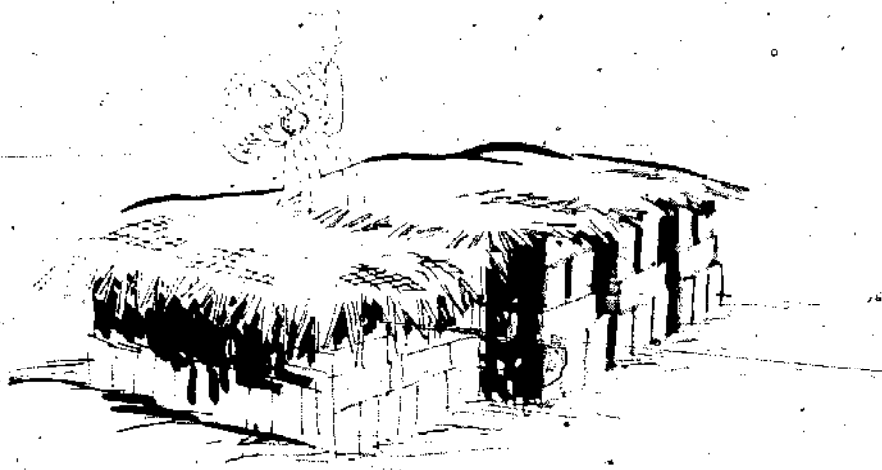

Figure 58.
3. If stabilizers such as lime or cement are used, cover the blocks with wet cloth or straw as soon as the molds are removed. Keep them moist for seven days and then turn them on edge to complete the curing. (See Figure 58, Chapter 9.)
A wet cure period is necessary for *stabilized* blocks to gain strength, particularly if they contain cementing type stabilizers. (See Chapter 2.) During the wet-curing period, blocks should be stood on end and covered with wet sacking, leaves, or other material as shown in Figure 58 so they can be kept moist. After